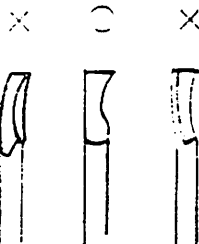

FIG 10
12).SETTING OF SPREADER LOOPER (FIG 10)
a).Flat surface of spreader looper should be parallel with surface of needle plate as shown in Fig 10.